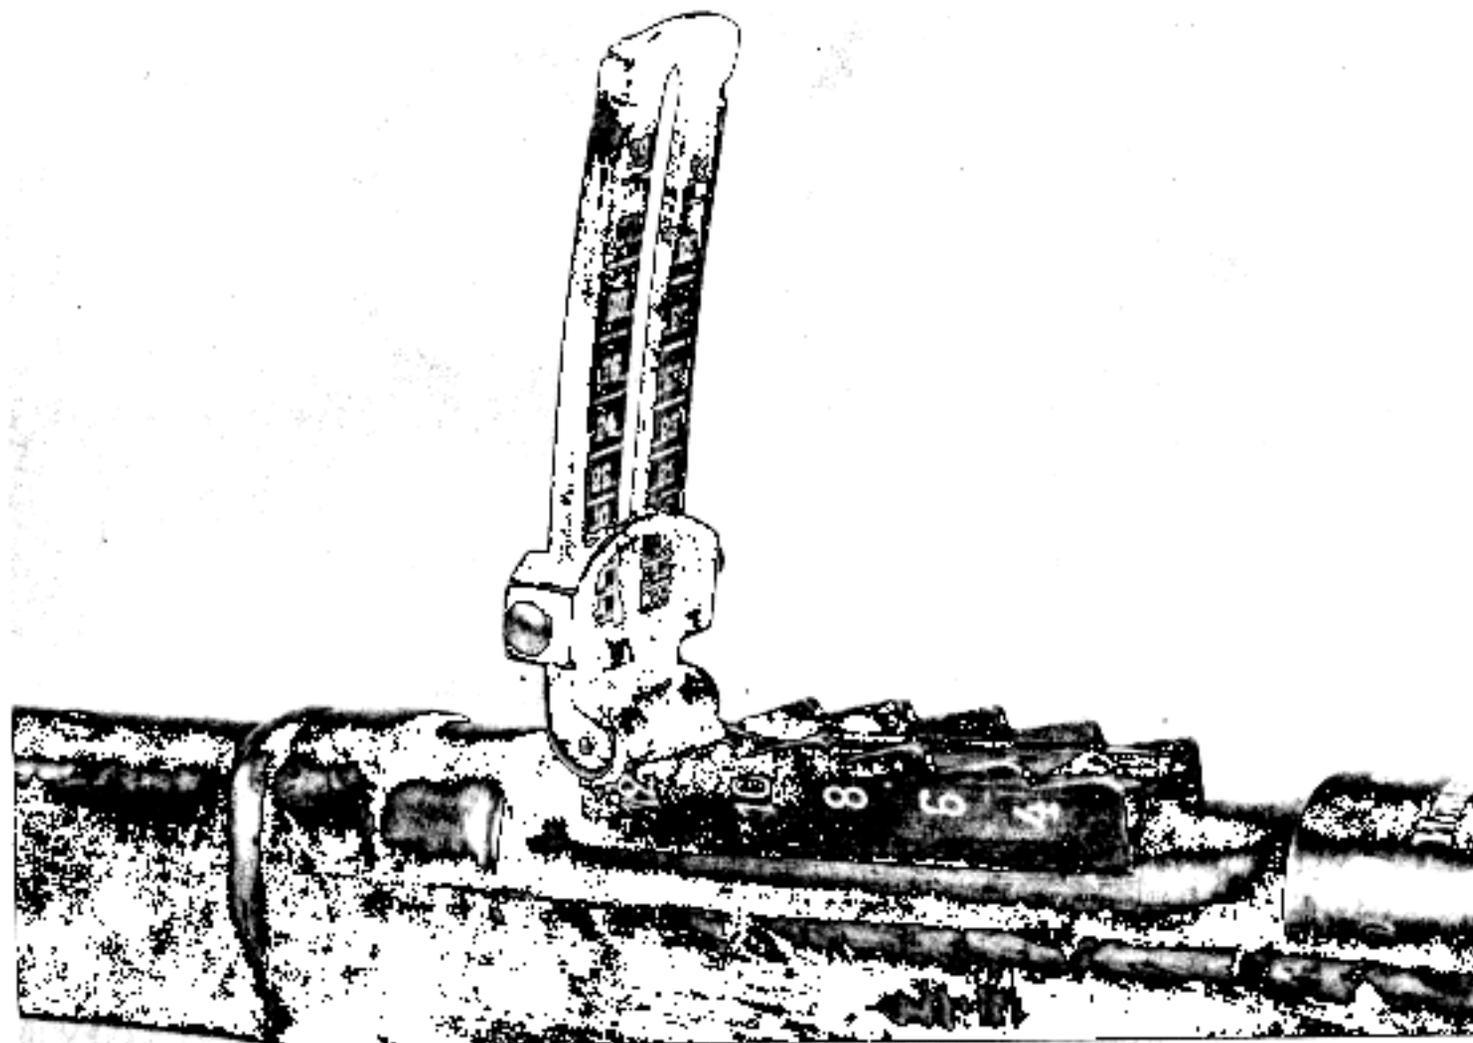

FIGURE 2. REAR SIGHT FOR RIFLE M1991.
a. This rifle has a notched-ramp leaf-type rear sight (fig. 2) which has no provision for windage. The sight is graduated from 400 to 9,200 meters (437 to 10,000 yards).